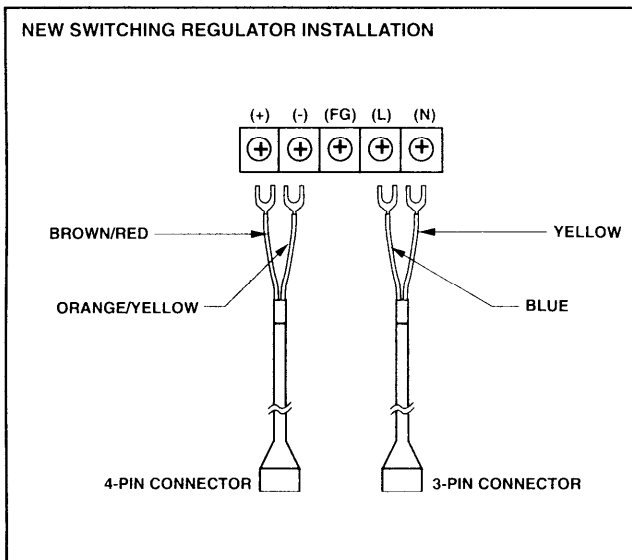

Figure 3
5. Remove the terminal board cover to expose the five terminal screws, labeled (L), (N), (-), (+) and [FG]. (See Figure 3.)